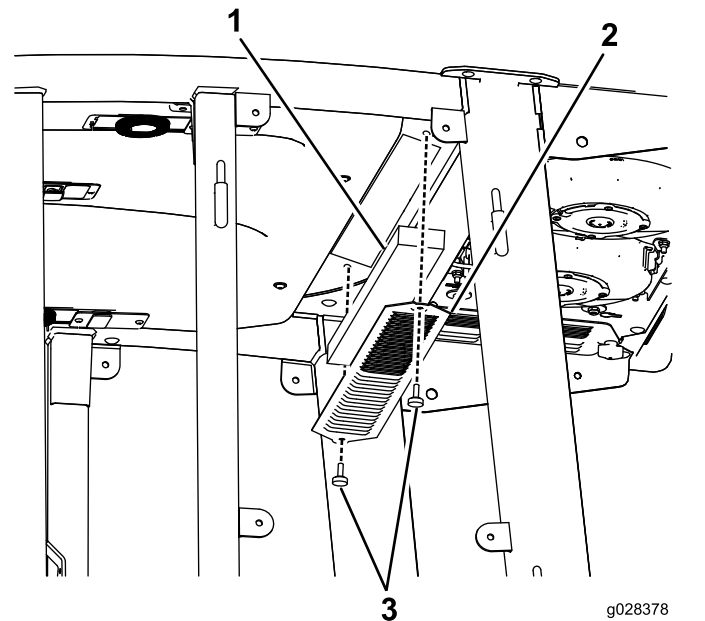

Figure 125
3. Remove the cabin roof of the cab by removing the 22 bolts that secure the roof (Figure 125).
4. Remove the air filters (Figure 125).
5. Remove and clean the air-conditioning coils (Figure 125).